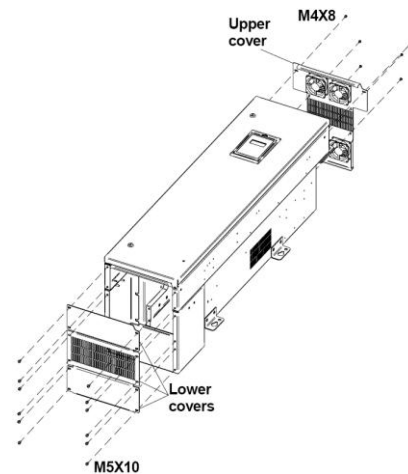

Figure 7.3.4 Remove the covers.
See the figure 7.3.4 while following the next instructions:
- 1) Put the lower covers as the figure 7.3.4 shows.